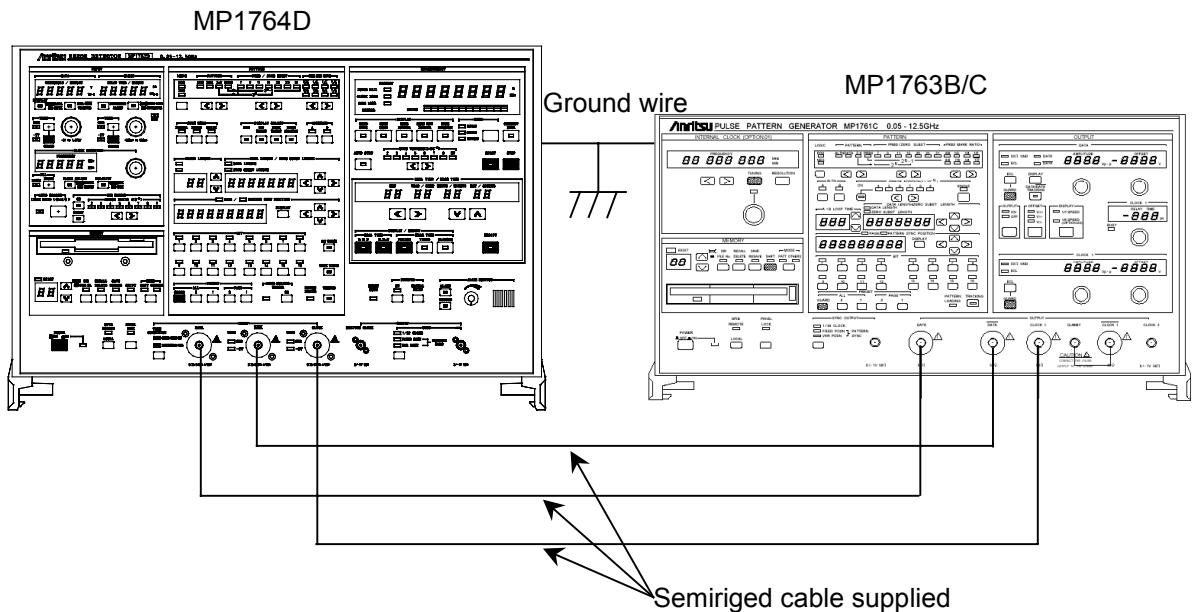

Fig. 7.3.1-1 MP1763B/C and MP1764D Setup
(3) Procedures
- [1] Set up the equipment as shown in Fig. 7.3.1-1.
(1) Rating
(2) Setup
The setup method is the same as Section 7.3.1 (2) and is shown in Fig. 7.3.1-1.
[1] Set up the equipment as shown in Fig. 7.3.1-1.